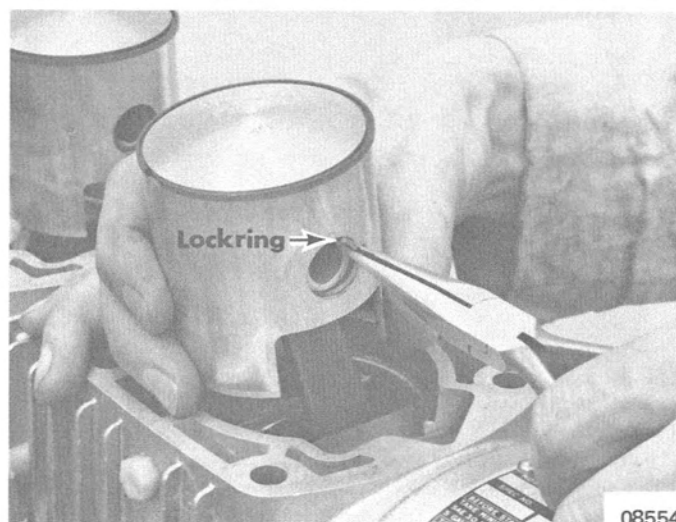

Figure 9. Installing Lockrings
4. Install new piston pin lockrings. (Figure 9)